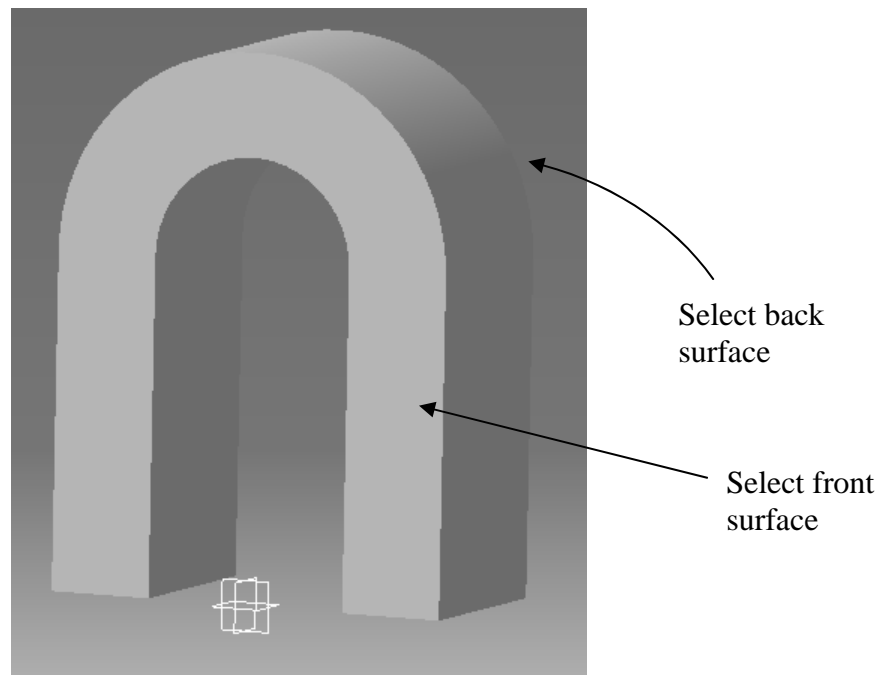

Figure 2.5
- 2.11 Select the front and back surfaces as the **Faces to Fillet** on the “Top U-Joint”, as shown in Figure 2.5